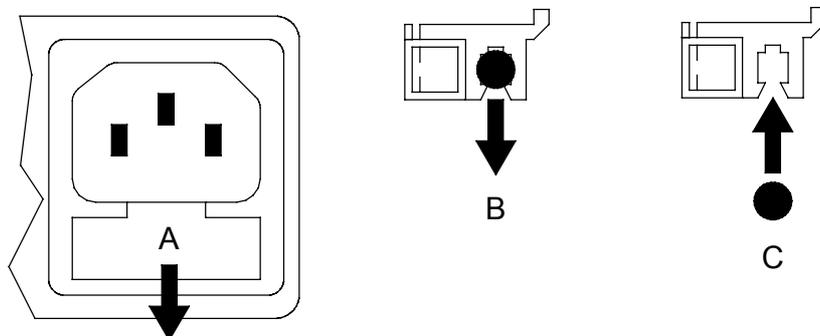

Figure 12 – Changing the Mains Fuse
Referring to Figure 12, remove the power cable, use a small flat bladed screwdriver to pry up the tab on the fuse carrier (A) and pull it out. Push the blown fuse out of the clip in the carrier (B) and dispose of it. Fit a new fuse in the clip (C) and push the carrier back into the unit so that it clicks home.